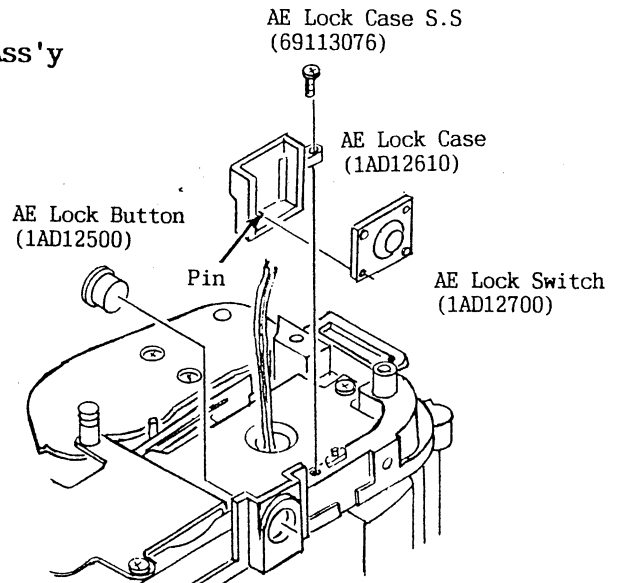

Fig.28
- a) Insert the pin of the AE Lock Case in the hole of the AE Lock Switch and install the AE Lock Case on the Body. (See Fig. 28)